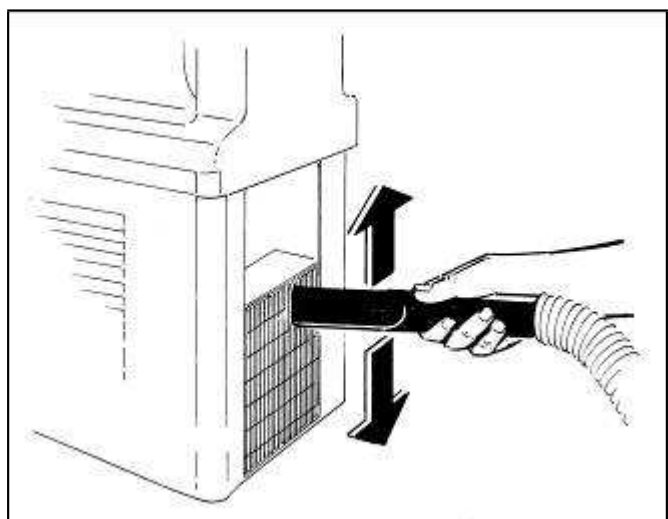

Рис. 43
- Using a dust exhauster, remove the dust that has collected between the condenser fins (Рис.43).